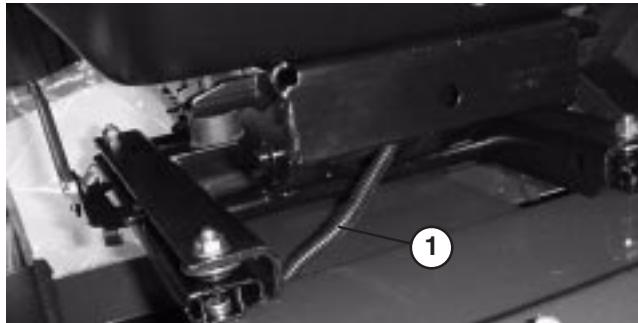

Figure 13
7. Route seat switch harness through holes in seat support and seat suspension (Fig. 13). Plug wire harness connector into seat switch connector on bottom of seat.